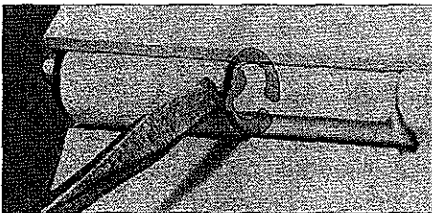

Figure 56
3. Remove the hinge pins which connect the display assembly to the Monitor enclosure. Each hinge pin has an e-style snap ring mounted on it. The snap ring must be removed in order to pull out the hinge pin. The snap ring must be oriented properly, as illustrated in Figure 56 in order to remove it. If the snap ring is not properly oriented, rotate it into correct position by using a small flathead screwdriver.